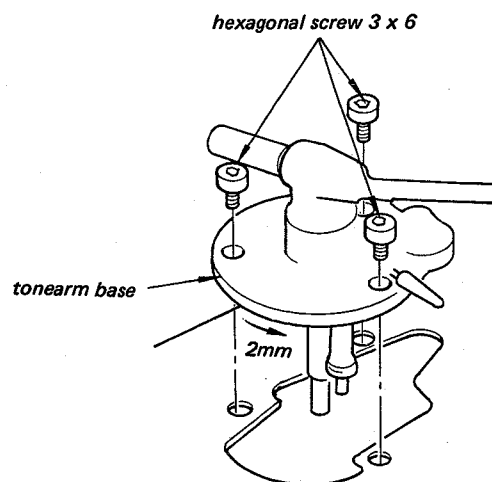

Fig. 2-9
5. Remove three hexagonal screws, then draw out the tonearm base while turning it clockwise about 2mm on the circumference as shown in Fig. 2-9.